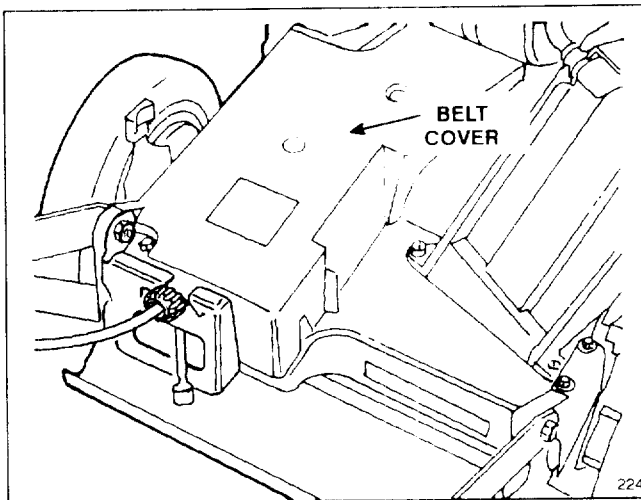

Figure 31
7. After every 25 operating hours at minimum, the area under the belt cover should be cleaned. Remove bolts securing belt cover (Fig. 31) to mower housing. Lift off cover and brush out all debris from belt area. Reinstall belt cover.